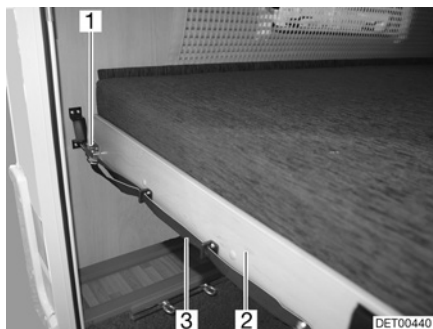

Fig. 55 Bunk bed (rear)
- Pull on the loop (Fig. 55,3) and release the latch (Fig. 55,1).
- Pull the slatted frame (Fig. 55,2) together with the mattress forward until it latches in place.